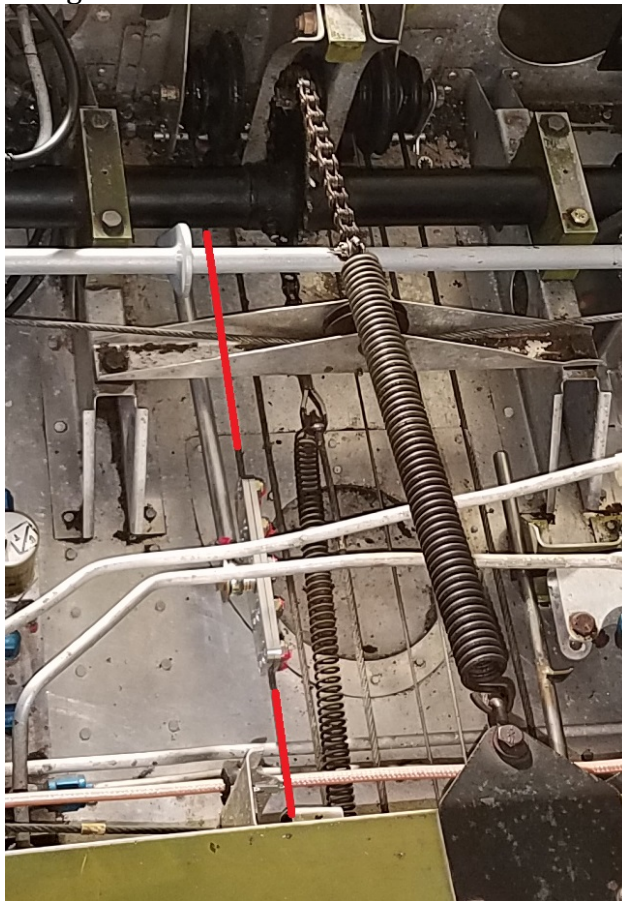

Figure 2-24
- 1.37. Move the controls in pitch to ascertain the location of the elevator cable marked in red in Figure 2-24.